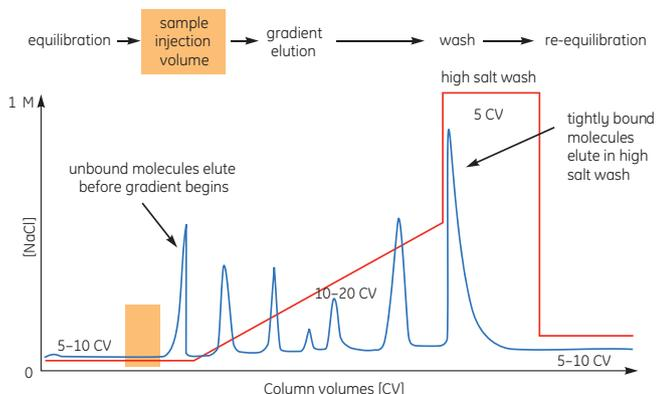
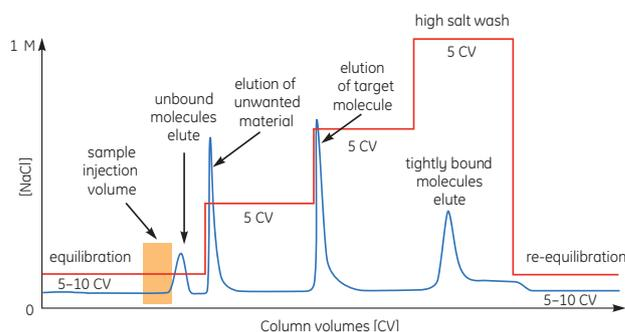

Fig 1. Typical IEX separation using gradient elution.
Fig 3. Typical IEX separation using stepwise elution.
Ion exchange (IEX) chromatography can separate molecules or groups of molecules that have only slight differences in charge. Separation is based on the reversible interaction between a charged molecule and an oppositely charged chromatography medium. Typically, conditions are selected to ensure that the molecules of interest bind to the medium as they are loaded onto the column. Conditions are then altered so that the bound substances are eluted differentially. Elution is most often performed by a continuous gradient or a stepwise increase in ionic strength, most commonly using NaCl. Figure 1 shows a typical high resolution gradient elution. A stepwise elution is illustrated in Figure 3.
6. For large-scale purification, separation times and buffer consumption can be reduced by transfer to a stepwise elution as shown in Figure 3.